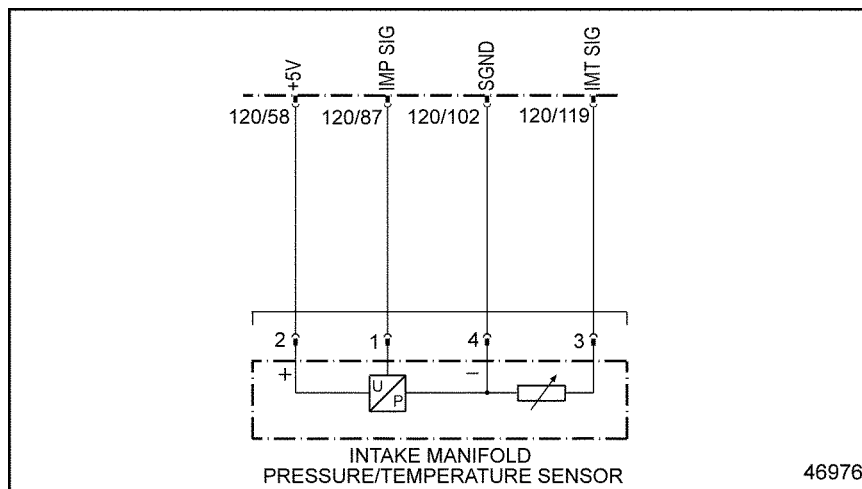

Figure 44-1 Intake Manifold Pressure/Temp Sensor
- [a] If fault code 3563/3 and 1636/3 are present, repair open circuit between pin 102 of the 120-pin MCM connector and pin 4 of the Intake Manifold Pressure/Temp Sensor. See Figure 44-1. Refer to section 44.2.1.1.
4. Measure the resistance between pins 1 and 4 of the Intake Manifold Pressure/Temp Sensor harness connector. See Figure 44-1.
- [a] If the resistance is greater than 5 Ω , repair short to power in the circuit between pin 87 of the 120-pin MCM connector and pin 1 of the Intake Manifold Pressure/Temp Sensor. See Figure 44-1. Refer to section 44.2.1.1.
- [b] If the resistance is less than 5 Ω , repair the short between wire 58 and 87 of the 120-pin MCM connector. See Figure 44-1. Refer to section 44.2.1.1.